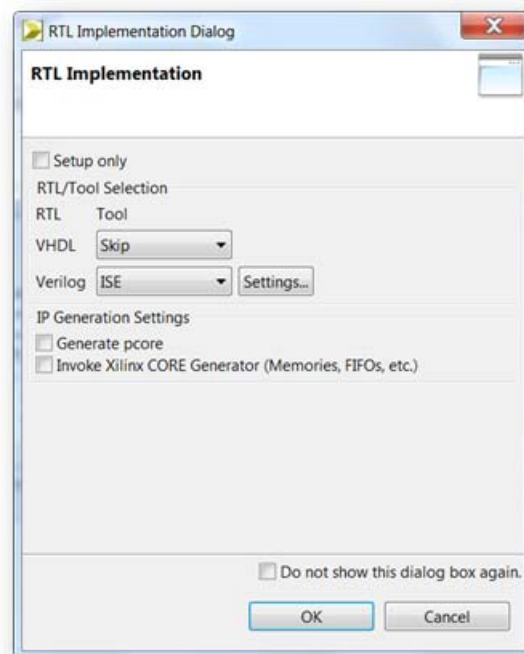

Figure 7-5: RTL Implementation Menu
The implementation dialog opens, as shown in Figure 7-5.
2. For VHDL or Verilog, select **ISE** from the drop-down menu. In this example, Verilog is used, as shown in Figure 7-5.